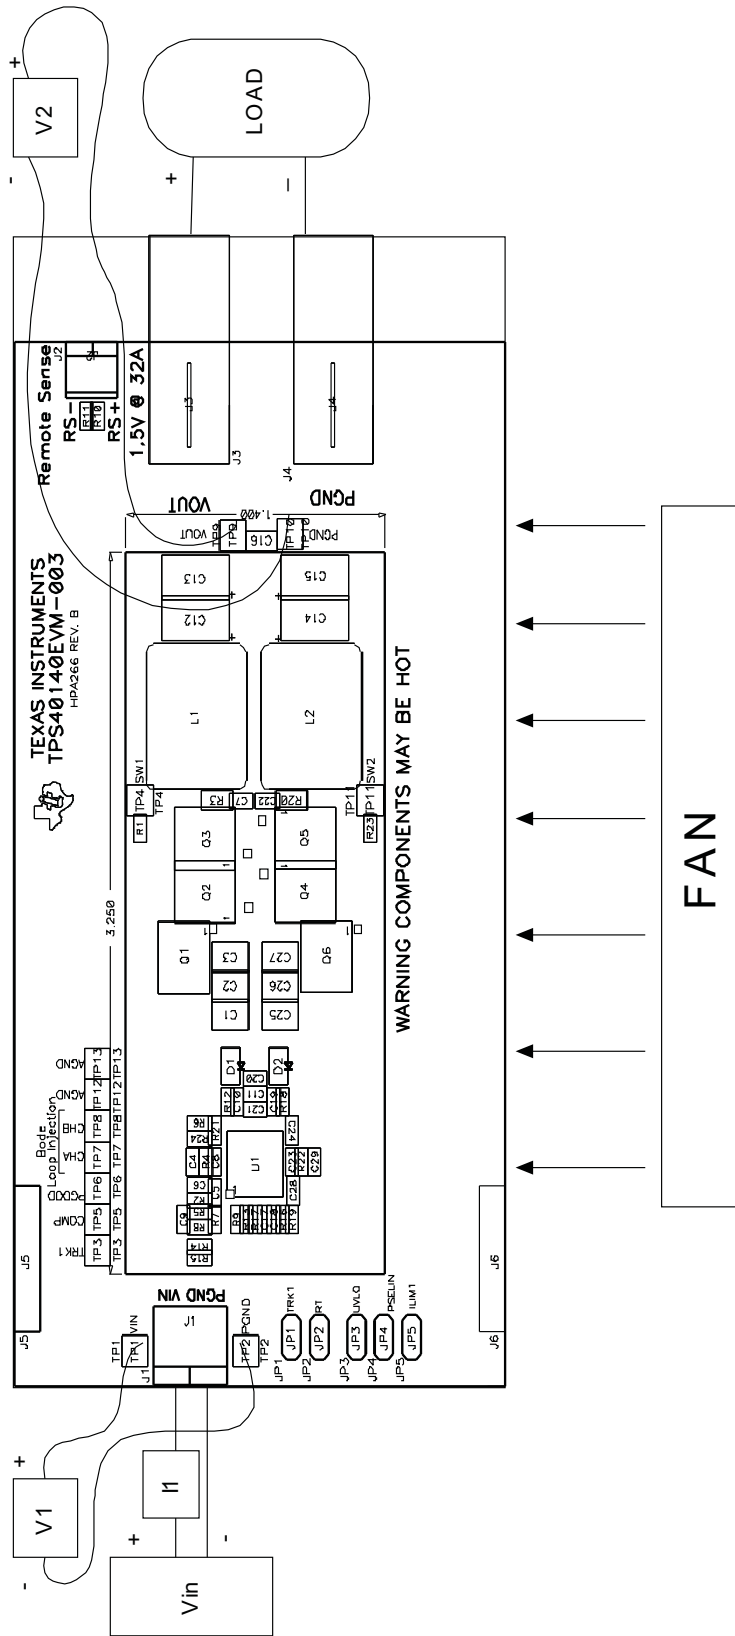

Figure 2. TPS40140EVM-003 Recommended Test Set-Up
The input voltage source (V_{IN}) should be a 0 V to 15V variable DC source capable of 10 A_{DC}. Connect V_{IN} to J1 as shown in Figure 2.
Shown in Figure 2 is the basic test set up recommended to evaluate the TPS40140EVM-003.
1. Prior to connecting the DC input source, V_{IN} , it is advisable to limit the source current from V_{IN} to 6A maximum. Make sure V_{IN} is initially set to 0V and connected as shown in Figure 2.
2. Connect voltmeter, V2, across TP9 and TP10, as shown in Figure 2.
1. Place Fan as shown in Figure 2 and turn on, making sure air is flowing across the EVM.